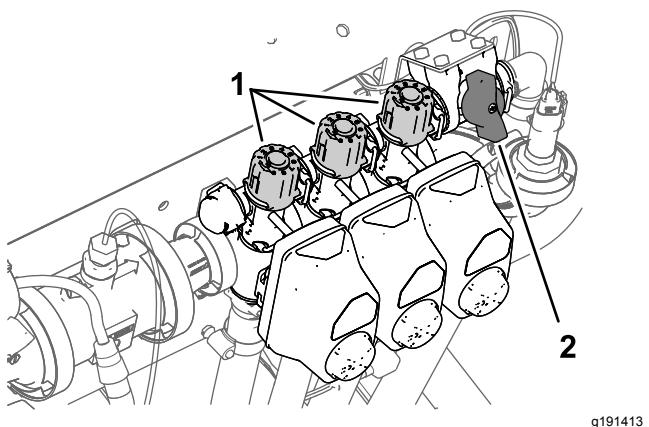

Figure 29
2. Turn off the left-section switch and adjust the section-bypass knob (Figure 29) until the rate displayed is at the previous level according to the table.
4. Adjust the right section-bypass knob (Figure 29) until the rate displayed is at the previous level according to the table.
6. Adjust the center section-bypass knob (Figure 29) until the rate displayed is at the previous level according to the table.